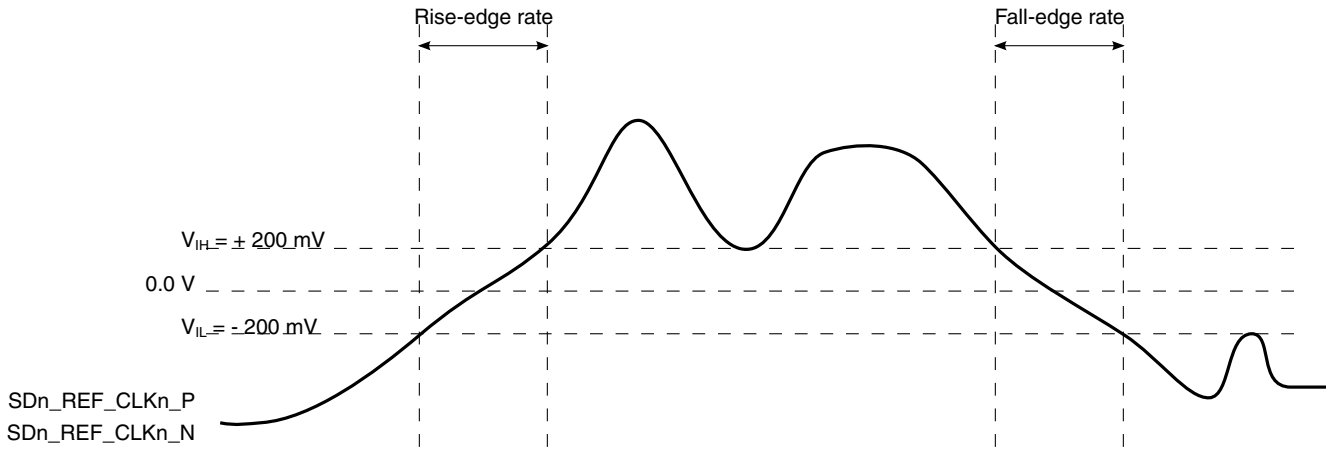

Figure 37. Differential measurement points for rise and fall time
- Measured from -200 mV to +200 mV on the differential waveform (derived from SDn_REF_CLKn_P minus SDn_REF_CLKn_N). The signal must be monotonic through the measurement region for rise and fall time. The 400 mV measurement window is centered on the differential zero crossing. See Figure 37.